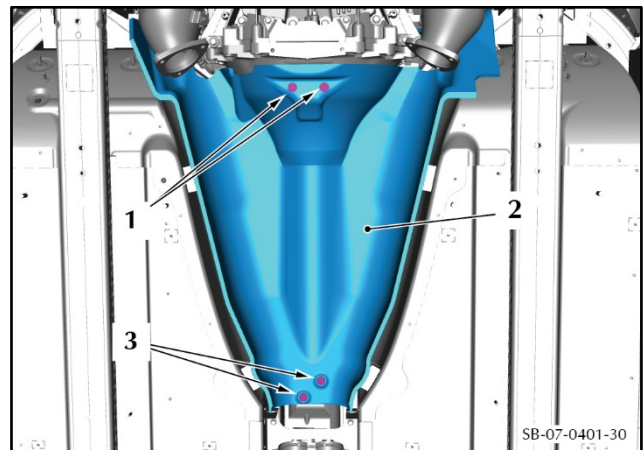

Figure 32
57. Remove the two screws (1) that attach the front of the heat shield (2) for the front floor to the torque tube (refer to Figure 32).
58. Remove the two screws (3) that attach the rear of the heat shield (2) to the torque tube and remove the heat shield (2).